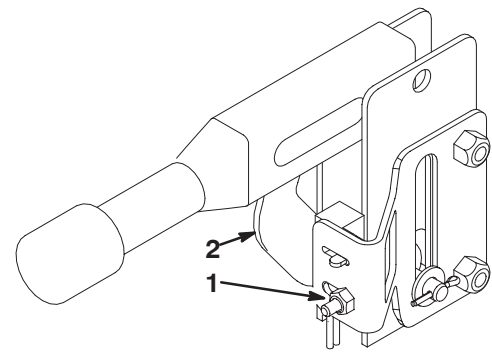

Figure 27
5. Loosen the (2) nuts securing brake interlock switch to brake sensor bracket (Fig. 27).
6. Adjust the brake switch until the air gap between the switch and the parking brake lever link is .060 inches \pm .030. (Fig. 27). Tighten the switch mounting nuts.